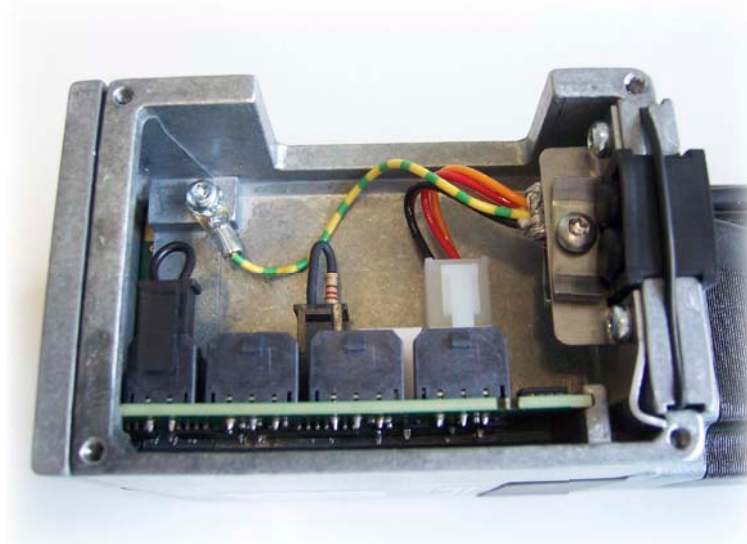

Fig. 5.2: Earthing lug in the cable connection area of the ECOMPACT®
The motor flange has to be mounted on a plain surface. A good thermal and electrical connection has to be observed. Varnished surfaces should be avoided. The motor is mounted by means of 4 M5 screws. For reasons of the electromagnetic compatibility (EMC) proper grounding of the ECOMPACT® is required. In the basic version of the ECOMPACT, this is achieved by connecting the protective earth (PE) conductor of the voltage supply to the earthing lug in the cable connection area (cf. Fig. 5.2) and the conductive mounting of the motor flange. The ECOMPACT version with M8/M12 connectors provides the PE pin on the „Power“ connector.
12. Connect the protective earth line (PE) of the power supply cable to the connector housing (cf. Chap. 5.1.3, Fig. 5.2).